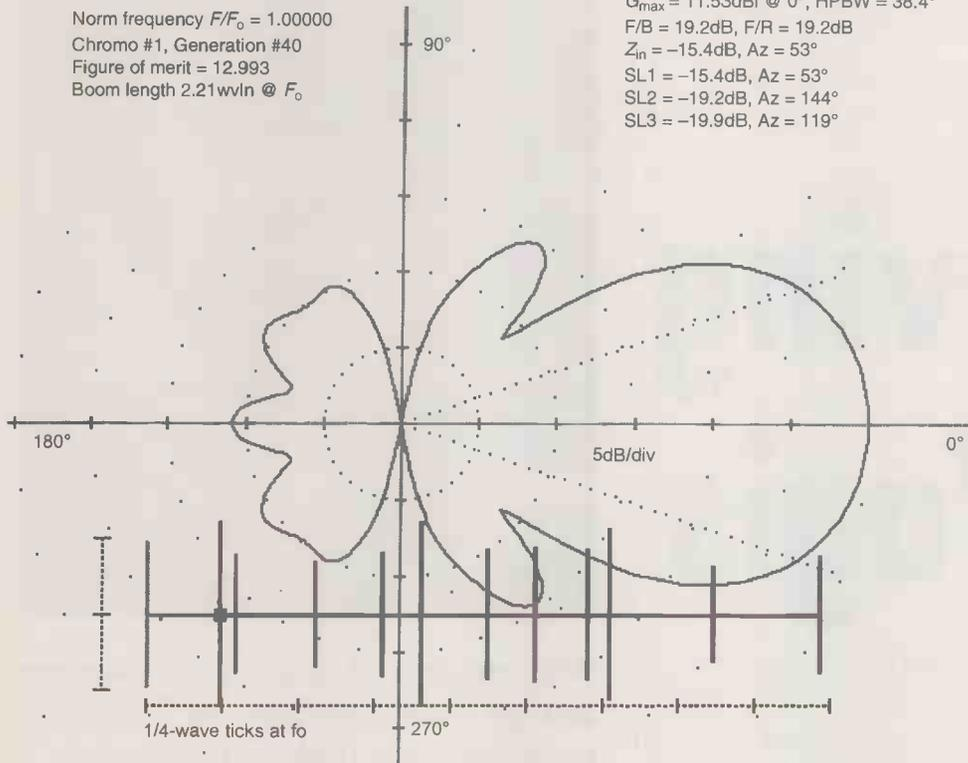

Fig. 1. Azimuthal pattern for the genetically-optimised 12-element Yagi using the NEC file YGO_1.40 listed later.
Figure 1 shows the YGO2 output screen, which plots the E-plane azimuthal radiation pattern and provides a scale representation of the array. The display is annotated with key performance data. The radiation pattern is very clean, and its structure is typical of well-designed Yagis.
The high-Z array in Fig. 1 is the same length as the low-Z antenna (2.21 waves), and has a gain of 11.53 dBi, and FB and front-to-rear (FR) ratios of 19.2dB. The high-Z array is essentially resonant at F_o ($Z_{in}=299.3+j2.9\Omega$), which provides a nearly perfect SWR of 1.01 on 300Ω open-wire line with no matching of any kind. In contrast, the low-Z Yagi's SWR relative to 50Ω is 1.32 without matching, assuming the antenna is resonant – almost certainly not the case.